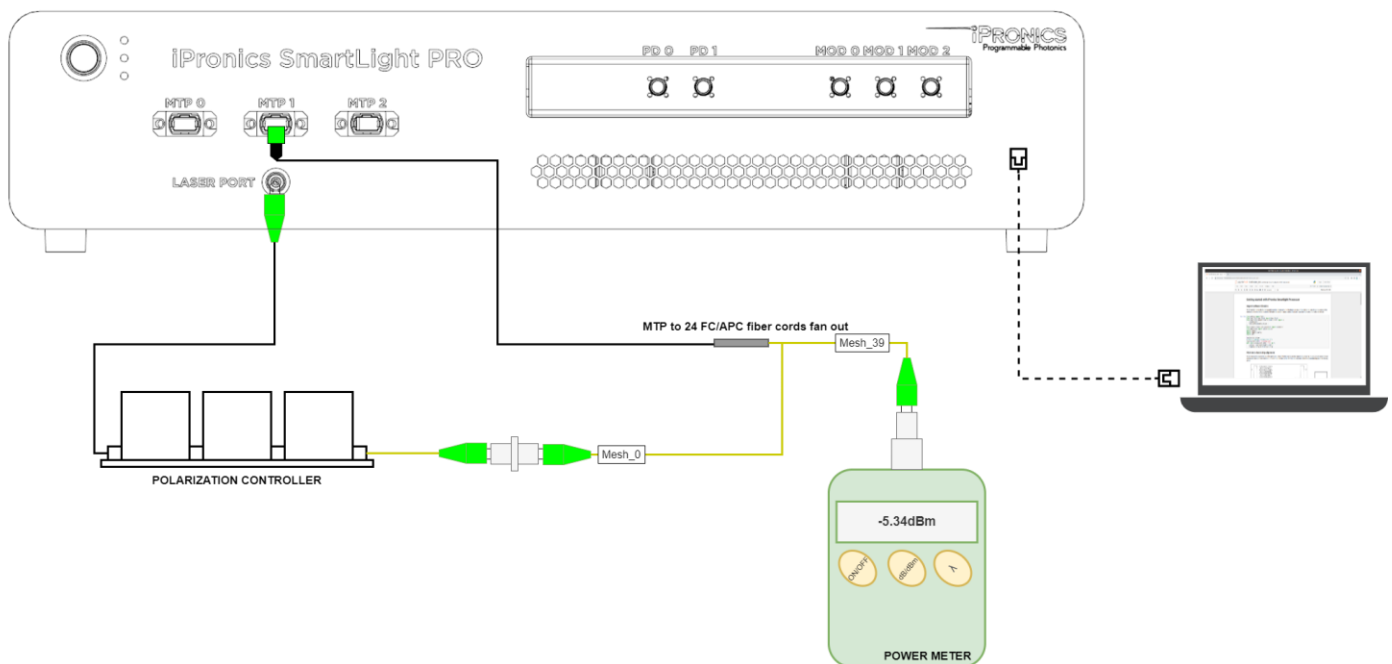

Fig. 2. Connection example of the iPronics Smartlight PRO (See **Annex 2** for absolute reference mapping)
4. Perform the connections as detailed in Fig. 2: